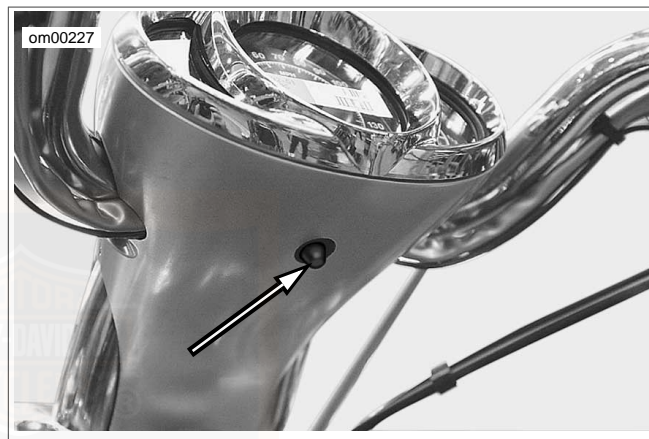

Figure 11. Odometer Reset Switch: VRSCA Shown
See Figure 11. Use the trip-odometer A or trip-odometer B to register number of miles/kilometers traveled on a trip or between refueling.
3. See Figure 11. Press the odometer reset switch to change the display window on the speedometer face to odometer, trip-odometer, or fuel range. The fuel range function can be identified by the letter 'r' on the left side of the display and the calculated number of miles (km) left. When the motorcycle is very low on fuel, the fuel range function displays "r lo".